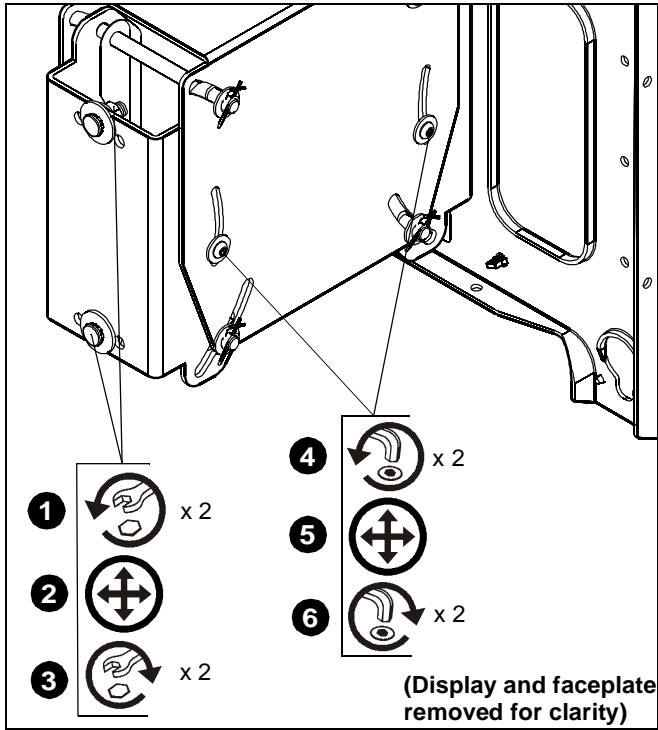

Figure 6
1. Loosen two Nylock nuts inside the PDC. (See Figure 6)
4. Loosen two screws on side of PDC. (See Figure 6)